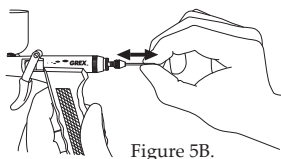

Figure 5B.
3. Hold the needle and move it slightly in and out of your airbrush repeatedly (pumping) to clean the internal packing. Refer to Figure 5B on page 11.